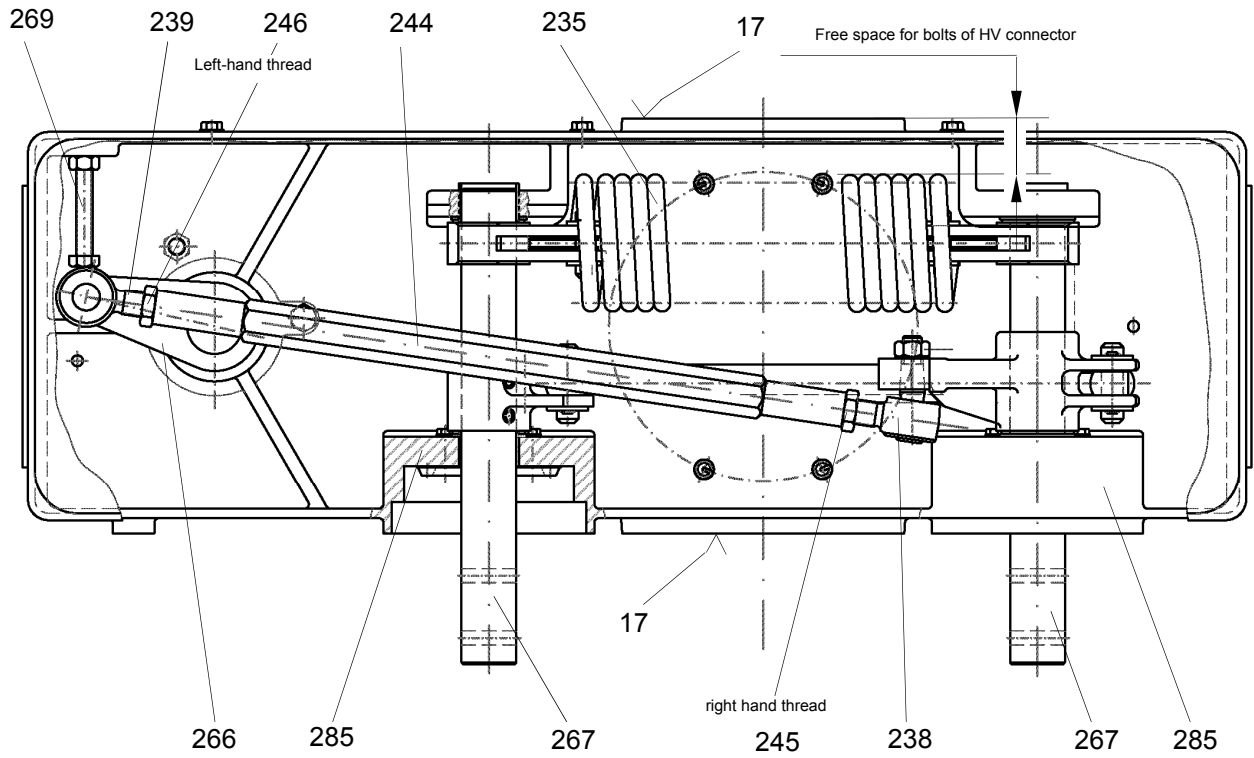

Figure 6 Gear box 224, sectional drawing: plan view (switching position CLOSED)
- 7.6.5 Put the earthing switch in the fully closed position. Check that the stopper touches the mechanism. Vertical movement of the blade is now mechanically blocked. See Figure 6.